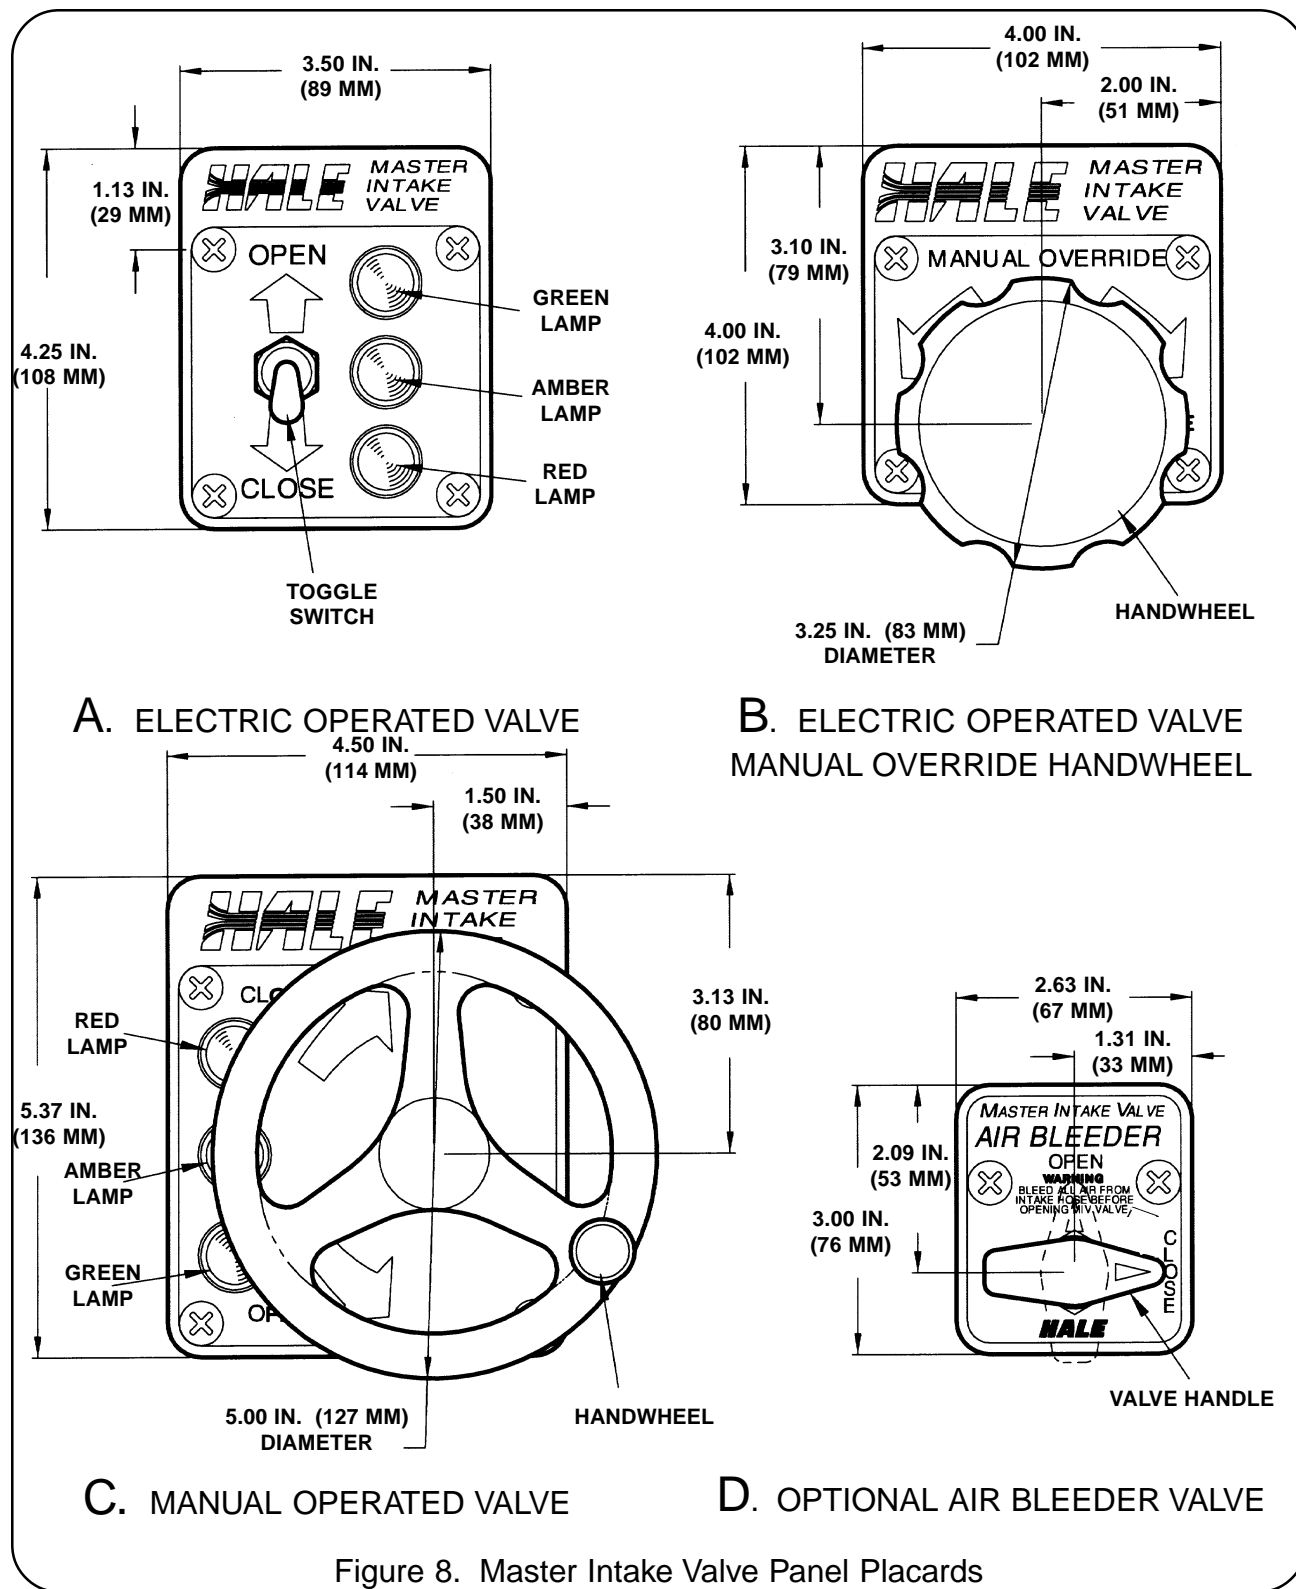

Figure 8. Master Intake Valve Panel Placards
3. Open air bleeder valve by turning the valve handle ¼ turn counterclockwise to the OPEN position(dashed lines). (See figure 8 D).
2. To open valve, push toggle switch (figure 8 A) to the OPEN position and hold until the green OPEN indicator lights. If apparatus configuration permits, observe the manual override handwheel on the operator panel to make sure the valve is turning. Release the switch.
1. To open the valve, turn handwheel (figure 8 C) in the direction indicated by the arrow on the panel placard until the green OPEN indicator lights.
1. To open the valve, turn handwheel (figure 8 B) in the direction indicated by the arrow on the panel placard until the handwheel stops.
3. If, during cold weather the formation of ice in the pump suction tube prevents normal opening of the Hale MIV-E, the valve disc may be freed by repeatedly moving the toggle switch (figure 8 A) on the operator panel from OPEN to CLOSED position joggling the valve disc to release the ice. Repeat movement of the toggle switch as many times as necessary to break the disc free. Observe the manual override handwheel to determine when disc is free and valve is operating.